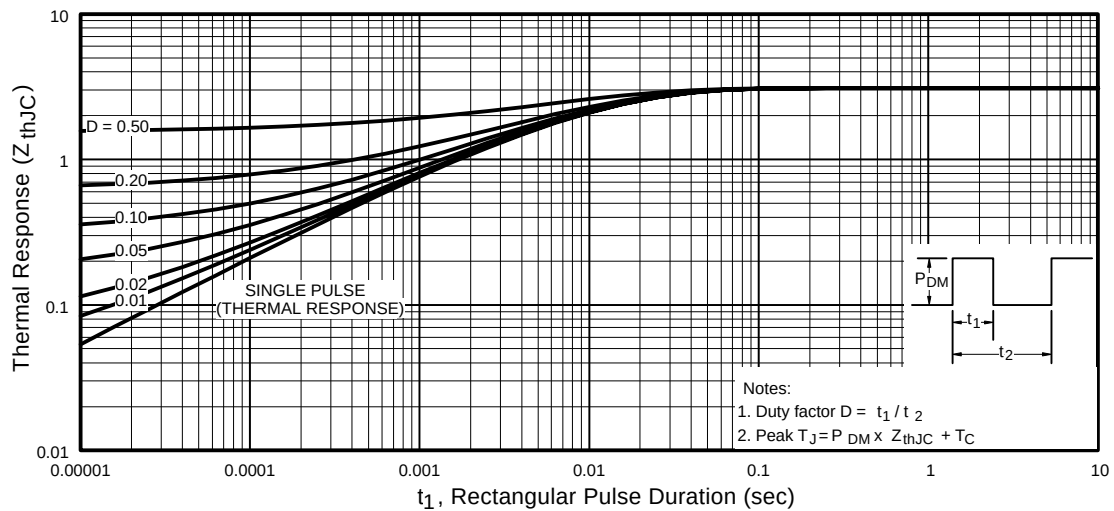

Fig 11. Maximum Effective Transient Thermal Impedance, Junction-to-Case
- ① Repetitive rating; pulse width limited by max. junction temperature. (See fig. 11)
- ② Starting $T_J = 25^\circ\text{C}$, $L = 13mH$